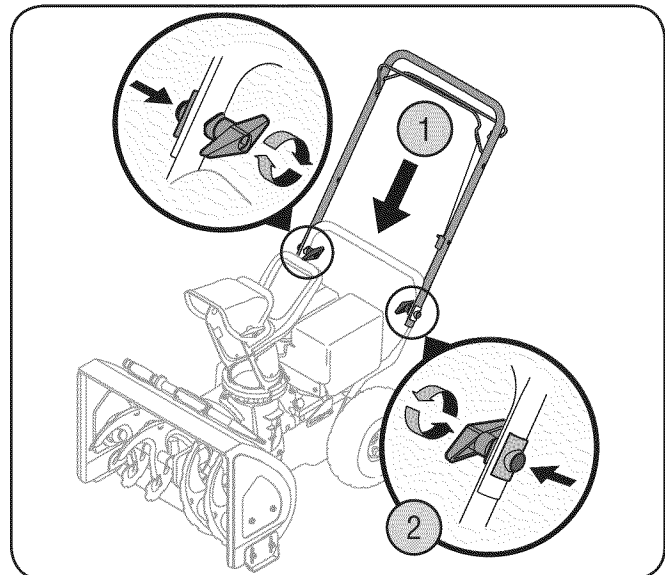

Figure 3-2
4. Lift the upper handle up and position it over the lower handle, aligning the holes where the wing knobs were removed (1). See Fig. 3-2.
5. Insert a carriage screw from the outside through a handle tab, the upper and lower handles, a saddle washer and into the wing knob (2). Repeat on the other side.
6. Tighten the wing knobs on each side of the handle. Refer to Fig. 3-2.